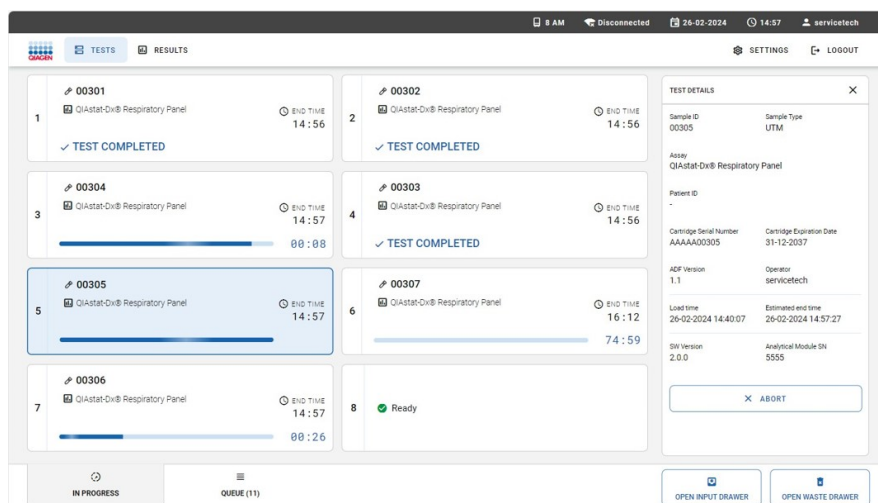

Figure 40. Abortion of a running sample.
A sample can be aborted while the test is running inside the Analytical Module (AM). To abort a sample, go to the **IN PROGRESS** tab of the **TESTS** screen, then select the sample and press the **ABORT** button on the bottom right corner of the screen (Figure 40).